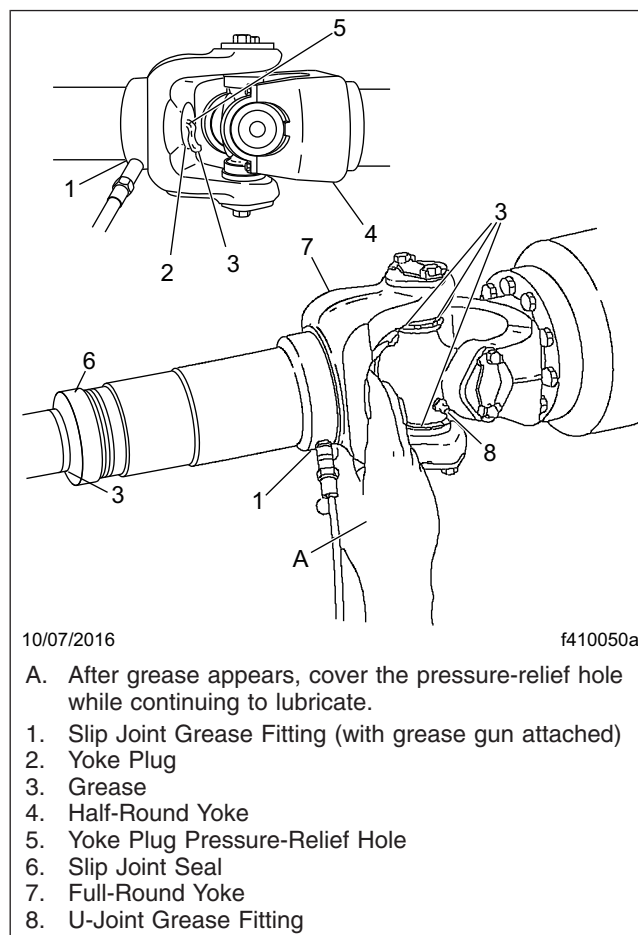

Fig. 5, Slip Joint and U-Joint Lubrication
9. For driveshafts with slip joints, check to be sure the yoke plug is not loose or missing. See Fig. 5. Repair or replace the yoke plug as needed. If the yoke plug is missing, the splined shaft may be hitting the plug and knocking it out; contact your Regional Service Office for assistance in determining the correct driveshaft length.
2. Wipe all old grease and dirt from each U-joint grease fitting. See Fig. 5.
1. If equipped with a grease fitting, wipe all old grease and dirt from the slip joint grease fitting. See Fig. 5.
2. Use a hand-type grease gun or a high-pressure gun with a low-pressure adapter, to lubricate the slip joint. Add multipurpose chassis grease (lithium 12-hydroxy stearate, NLGI Grade 2, with EP additives) until it appears at the pressure-relief hole in the yoke plug. Then cover the relief hole with your finger, while continuing to apply gun pressure until new grease appears at the slip joint seal. See Fig. 5. This ensures complete lubrication of the splines.